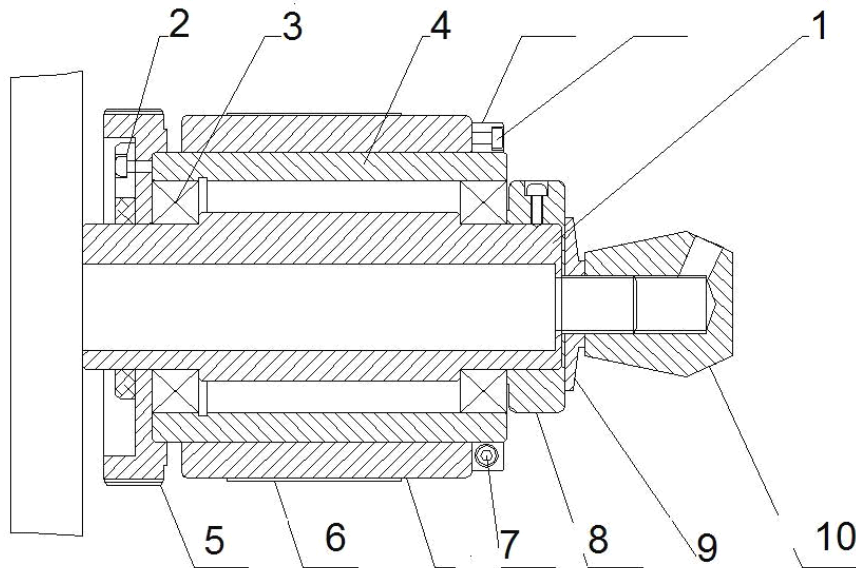

Fig.1-2
with tidy level. (If the double-side tape is not pasted on, you can grit with abrasive paper, because the dirty may be on the roller), then install it on the printing machine, press it with embossing rolling ③ turn the machine to press the blanket flat, the shaft core of the press printing roller is a kind of structure of eccentric structure, it can adjust the pressure. The shaft core of printing roller② is also a kind of eccentric adjusting structure (illustrated Fig.1-2), it is used in adjusting its printing pressure. The inking transmission circuit are composed of wavers ④ , inking roller⑤, inking supplying⑥, glue roller, duct used for storing ink, glue roller and ink roller are used for transmission ink, the wavers is used for evening the ink. The ink can be controlled by screws ⑧ adjusting. If it needs stopping, turn the OFF hand wheel.
Illustrated as Fig. 1-2, loosen the screws of positioning sleeve ⑦, knock